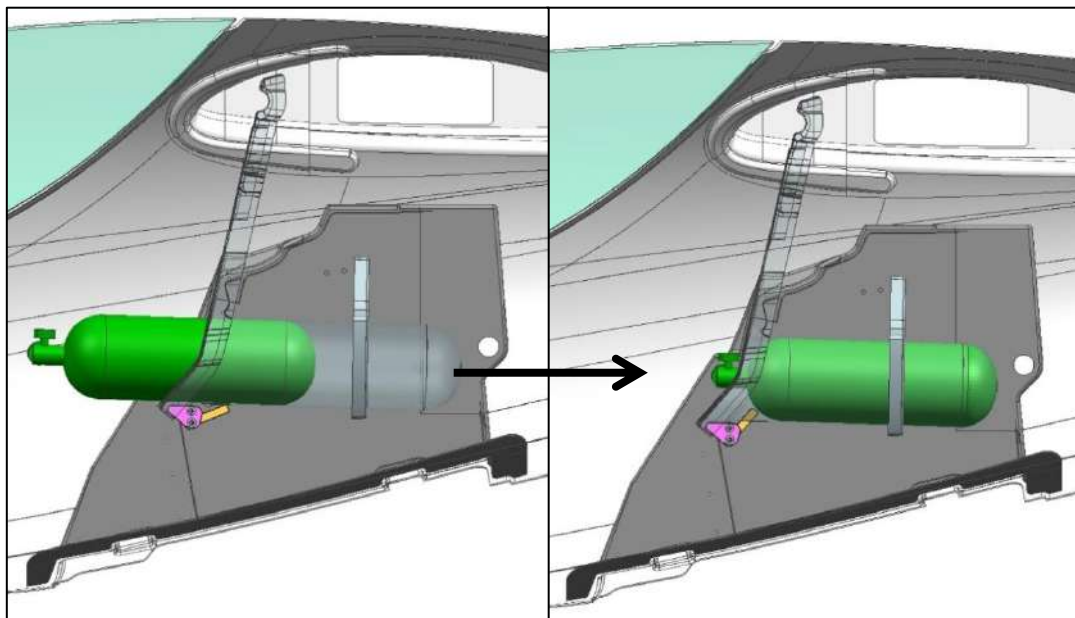

Figure 35-2: Oxygen bottle installation
1. Slide the closed end of the bottle into the tube. The bottle will push down the sprung lock lever (Figure 35-2).
2. Slide the bottle out of the tube far enough for the bottle to keep the lock lever pressed down (Figure 35-2).